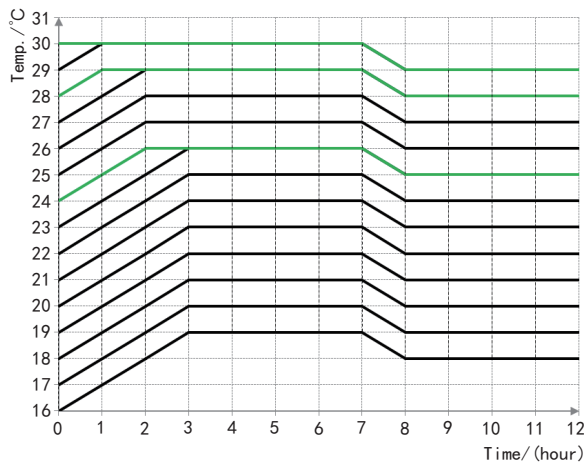

Fig.14 Sleep Curve under the COOL Mode
- ① . The Sleep function is defaulted to be OFF after power recovery.
- ② . The Sleep function is unavailable under the Fan mode.
- ③ . When the Quiet function is activated, the Quiet function will always keep ON no matter if the Sleep function is activated or deactivated.
- ④ . Under the Cool mode, the Sleep function is ON, the setting temperature range can be 16~23°C, 24~27°C, 28~29°C or 30°C. Each of them has a different curve as shown in Fig.14.